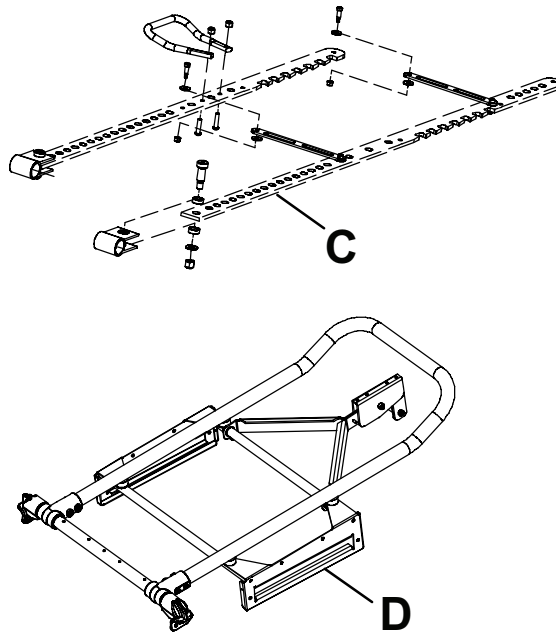

Figure 3 – Height adjustment racks and side plates
4. Apply Tri-Flow™ to the right and left height adjustment racks (C) (Figure 3). Provide an even application.
5. Apply Tri-Flow™ to the right and left slide plates (D) (Figure 3). Provide an even application.